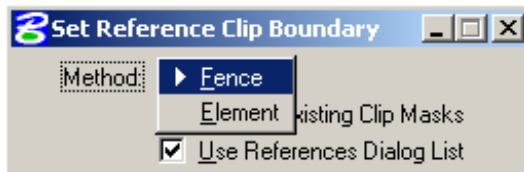

Figure 7-10: Set the Clip Boundary Tool Settings dialog
- 🎵 If you aren't seeing the same thing you saw in your *layout.dgn*, place a fence around the border and select **File>Reference (DOT)>Clip>Boundary>All**. Set the *Method* to **Fence**, place a *check* in the *Use References Dialog List* and click in the view window (Figure 7-10).